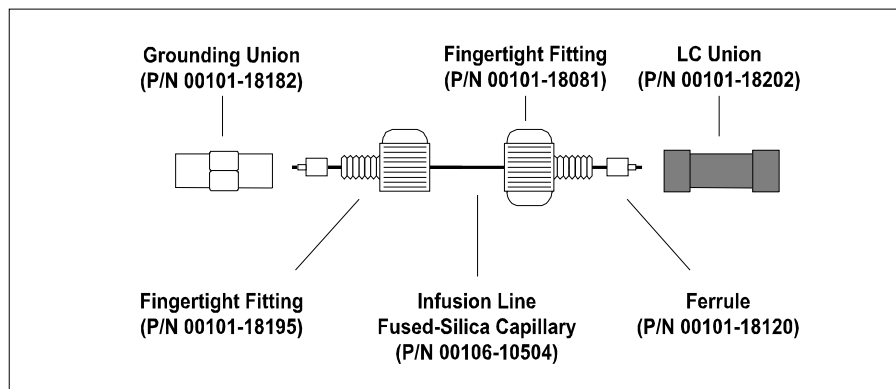

Figure 17. ESI/MS plumbing connections for the fused-silica infusion line
6. Connect a fused-silica infusion line from the LC union to the (stainless steel) grounding union as follows. See Figure 17.